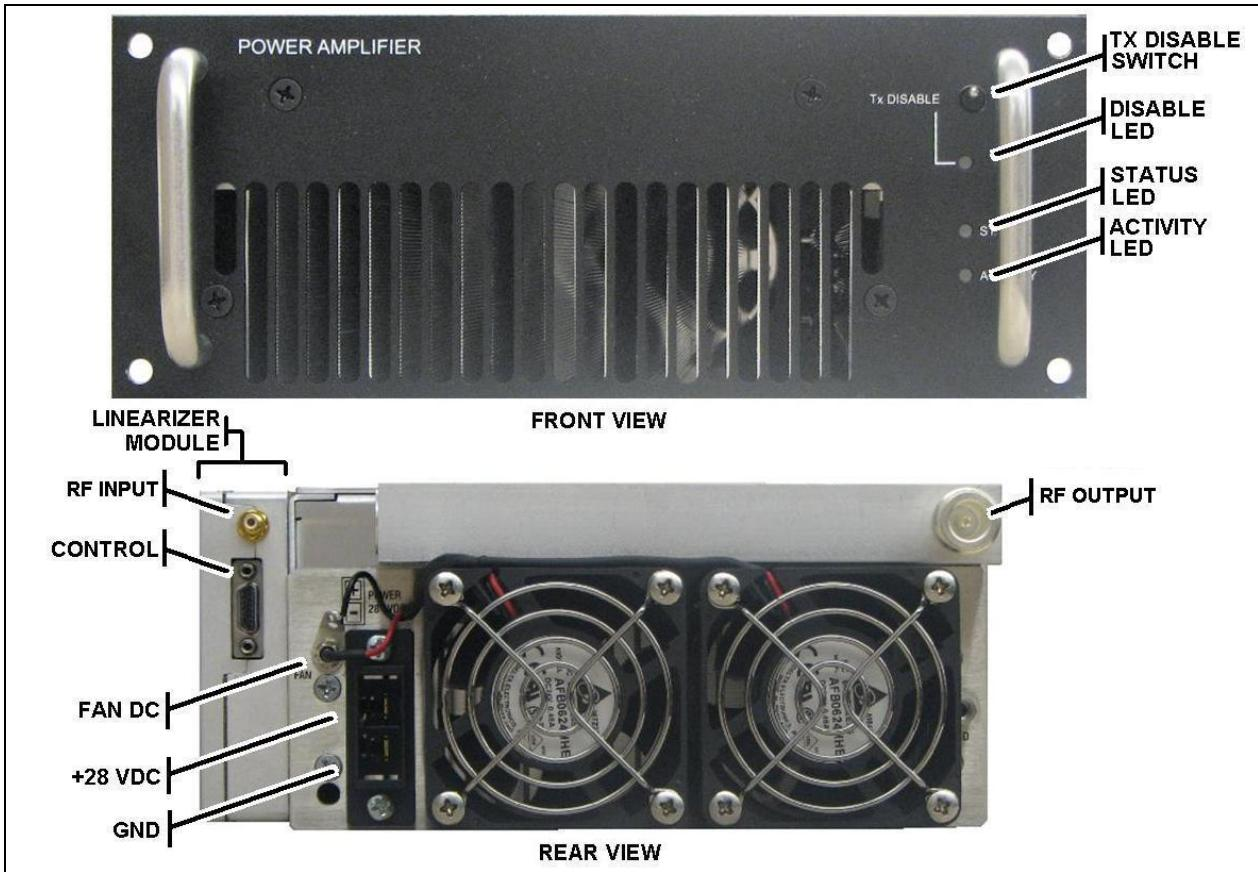

Figure 4-9: High Power Amplifier Module with Integrated Linearizer
The RF High Power Amplifier (HPA) assembly EA-555009-002 (shown in Figure 4-9), amplifies the exciter output to rated station output power level for 150-174MHz operation. This module contains a power module, amplifier drivers and power control circuitry required for power amplification. The Power Amplifier assembly is a continuous duty, solid state, wide-band RF power amplifier. Its main function is to amplify the 0 dBm signal from the TX module to the rated RF output at the antenna port. The RF
The MASTR V Power Supply (PS) module EA-555011-001 (refer to Figure 4-9) is a continuous duty switching power supply. It operates from an input of 85 VAC to 265 VAC at 47 Hz to 63 Hz (1000 Watts maximum). The PSU provides a maximum of 875 Watts total output power divided among the following three (3) DC outputs: